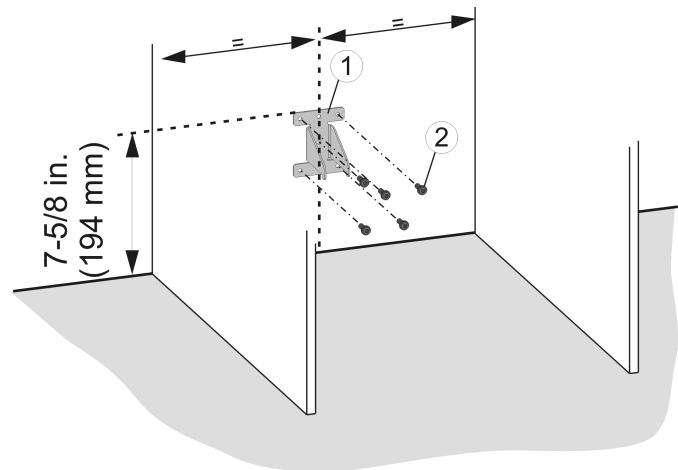

Fig. 28
- Install the anti-tip device Fig. 28 (1) using appropriate screws Fig. 28 (2).